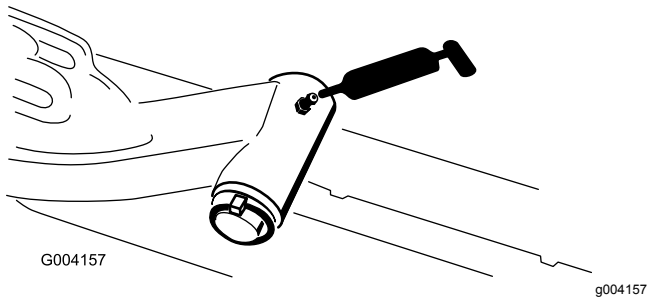

Figure 50
- Lift arm pivot shaft (1 each) (Figure 50)